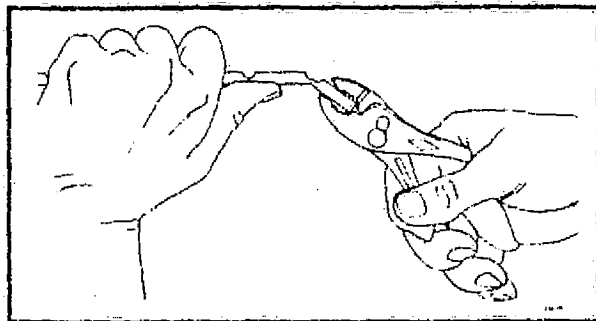

FIG. 9-REMOVING EXCESS BULB SUPPORT.
3. Break holder to desired length (Fig. 9).